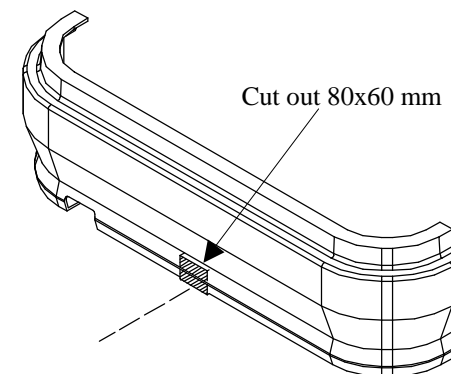

Fig. 2
2. Slide the main bar of the towbar (pos. 1) to the tunnels and fix it through original car holes and towbar holes (pos. A) using bolts M10x35mm (pos. 5) from the towbar accessories. Use washers (pos. 6).
3. Cut the bumper according to fig. 2.
5. Fix body of the automat (pos. 7) and the socket plate (pos. 3) using bolts M12x25mm (pos. 4) from accessories. Place tow-ball (pos. 2) according to supplied instruction.